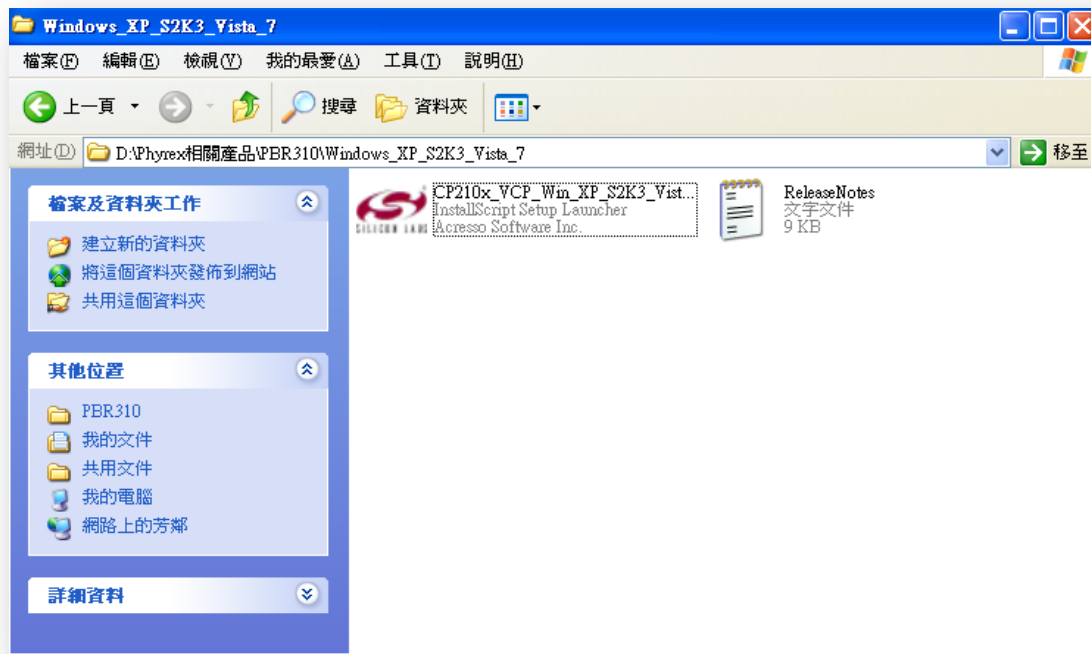
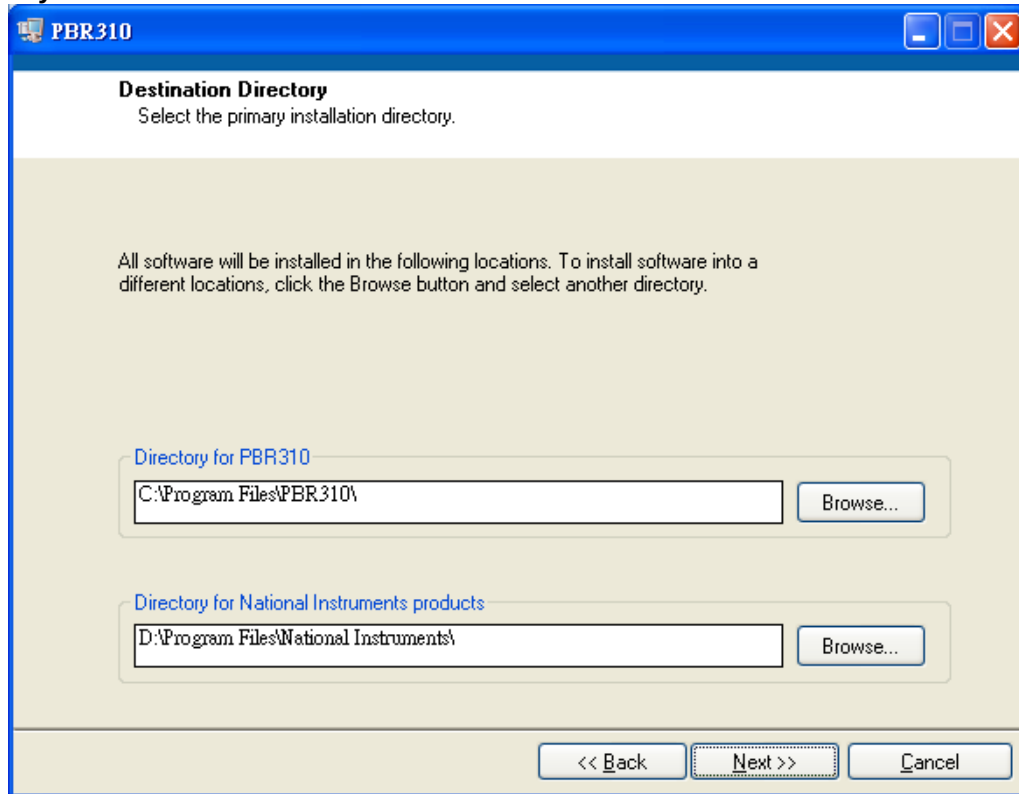

Figure 6: USB/COM Driver installation Folder
Figure 8 Installing the PBR-310 GUI and NI Run Time
- **Access PBR-310**, double click the PBR-310 icon  to launch the system software, the COM port setting screen will pop up to guide the user insert the COM port. Please check the windows system device manager and insert the COM port properly, Fig. 8. PBR-310 system was required dual COM ports, denote as "Standard" and "Enhanced", respectively. From Fig.6,the "Standard COM" type is designed for BERT system control, and sampling oscilloscope mode is occupied the "Enhanced COM type".